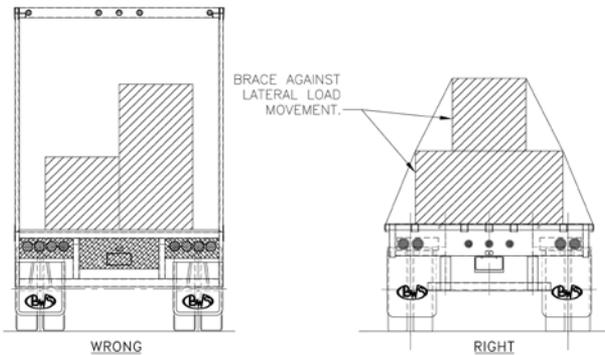

Figure 7
2. Crosswise weights should be equally distributed (figure 7) . A heavy load should not be placed on one side. This will overload suspensions and tires on that side. Place load so that weight will be equal on rear tires, eliminating possible twisting of the frame and overloading of axle housings and wheel bearings.